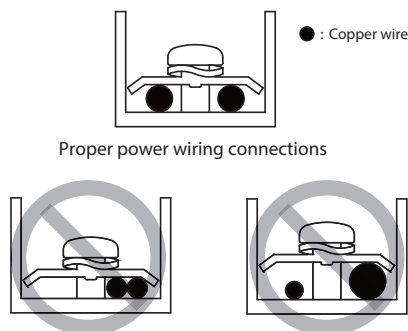

Figure 9.2
■ Do not connect two power cords with different diameters to the same power supply terminal (may cause overheating of wires due to loose wiring) (See Figure 9.2).